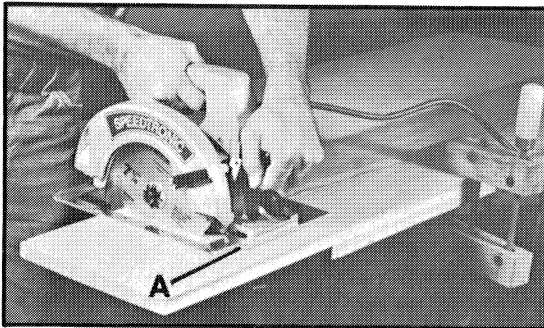

Fig. 9
On the right front part of the base, a beveled edge (A) Fig. 9, is provided to aid the operator in guiding the saw parallel to the desired line of cut when the saw is set at 90 degrees or at any bevel angle to 45 degrees.
**“WARNING:** It is important to support the work properly and to hold the saw firmly to prevent loss of control which could cause personal injury. Figure 9 illustrates typical hand support of the saw.”
Clamp work on a rigid support such as a bench or saw horses. See Fig. 9. Mark the line of cut on the work. Be sure cut-off line is beyond end of support to the right, only enough to allow proper operation of the telescoping guard. Place front edge of saw squarely on work before starting motor. Sight the cutting line with the cut-line indicator (A) Fig. 9. Back saw up slightly and start motor. Move saw forward keeping the edge of cut-line indicator parallel to line of cut.
**CAUTION:** Keep the cord away from the cutting area, so it does not get hung up in the work being cut. See Fig. 9.
Cutting directly across the grain of a piece of lumber is called crosscutting. Fig. 9, illustrates a crosscut operation. Position the work so that the cut will be on the right, as shown.